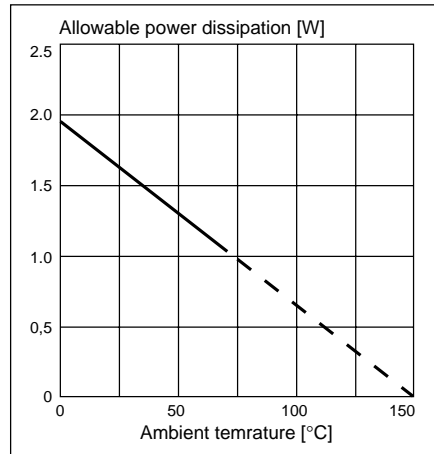

Figure 18. Power dissipation vs. Ambient temperature.
- The ambient temperature sets the maximum allowable power dissipation in the IC, which relates to the motor currents and the duty cycle of the Bi-level function. For NJM3517, without any measures taken to reduce the chip temperature via heatsinks, the power dissipation vs. temperature follows the curve in figure 18.